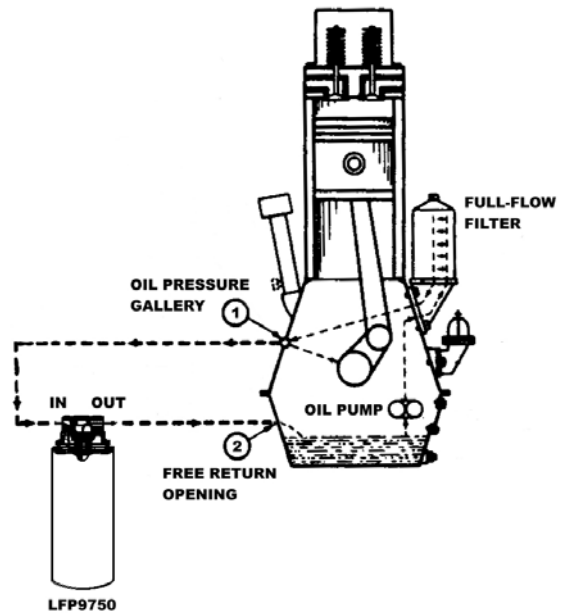

Figure 2
1. Inlet of **LMB451** should be connected to a pressure opening on the engine. Examples of pressure sources are; Gallery ports, Pressure Sender port, etc (Reference Figure 2).
2. Outlet of **LMB451** should be connected to a free return to the crankcase or sump of the engine. Examples of this include; Access port provided by Engine Manufacturer, Oil Filler Tube, etc (Reference Figure 2).